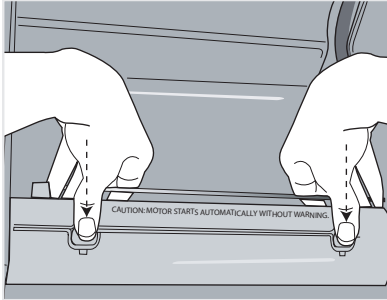

Fig. 12
- With two thumbs, press the two buttons on the motor housing to release rake (Fig. 12).